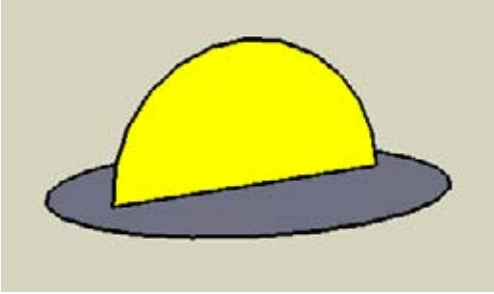

Figure 2-77
2. Remove the lower half (Figure 2-77).